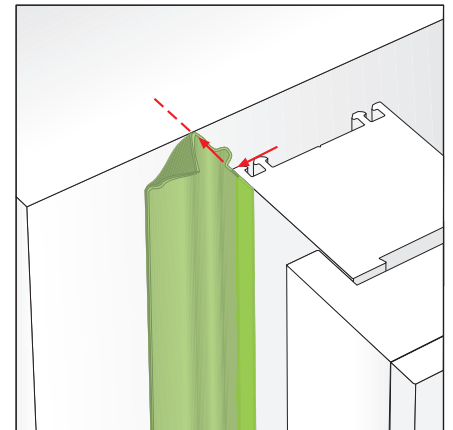

Fig 2: Positioning of the butyl strip
- Ensure that the membrane is located as in fig 2 after applying illbruck FM230 Window Seal Foam (if required). If necessary, prime the reveal area where the butyl adhesive will be located with illbruck ME901 (brushable) or ME902 (spray) Butyl & Bitumen Primer.
- Ensure that the membrane is located as in fig 2. If necessary, prime the reveal area where the butyl adhesive will be located.